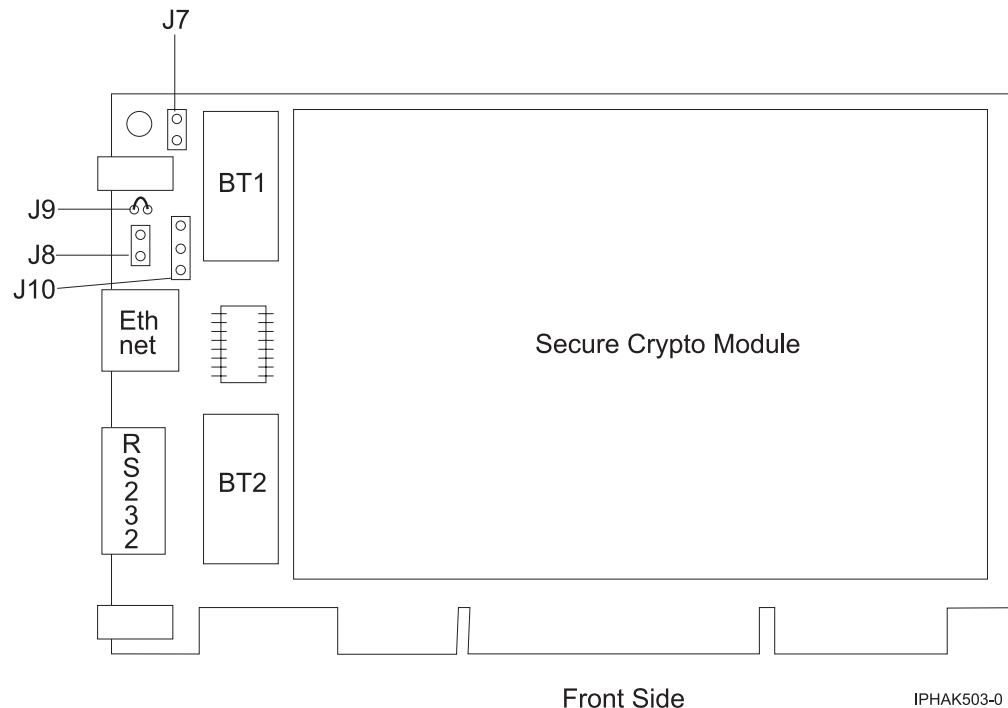

Figure 38. Front side of the adapter
6. Insert one of the new batteries into the battery tray provided with the kit. Align the + on the battery with the + on the battery tray (the end with the red wire). Connect the tray wires to the J10 connector located near the RS-232 serial port, as shown in Figure 38 on page 131. The connector is polarized to ensure a correct connection.